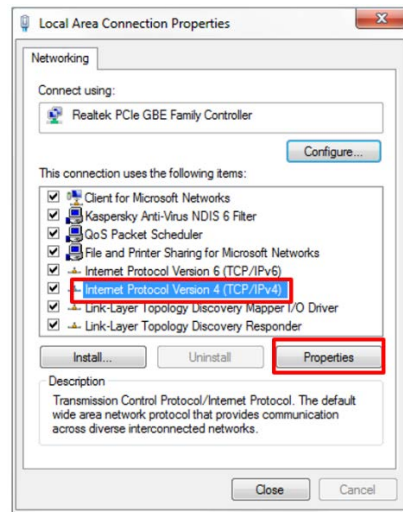

Figure 4-18: Internet Protocol Version 4 (TCP/IPv4)
- Double click **Internet Protocol Version 4 (TCP/IPv4)**, or highlight **Internet Protocol Version 4 (TCP/IPv4)** and select **Properties**, Figure 4-18.